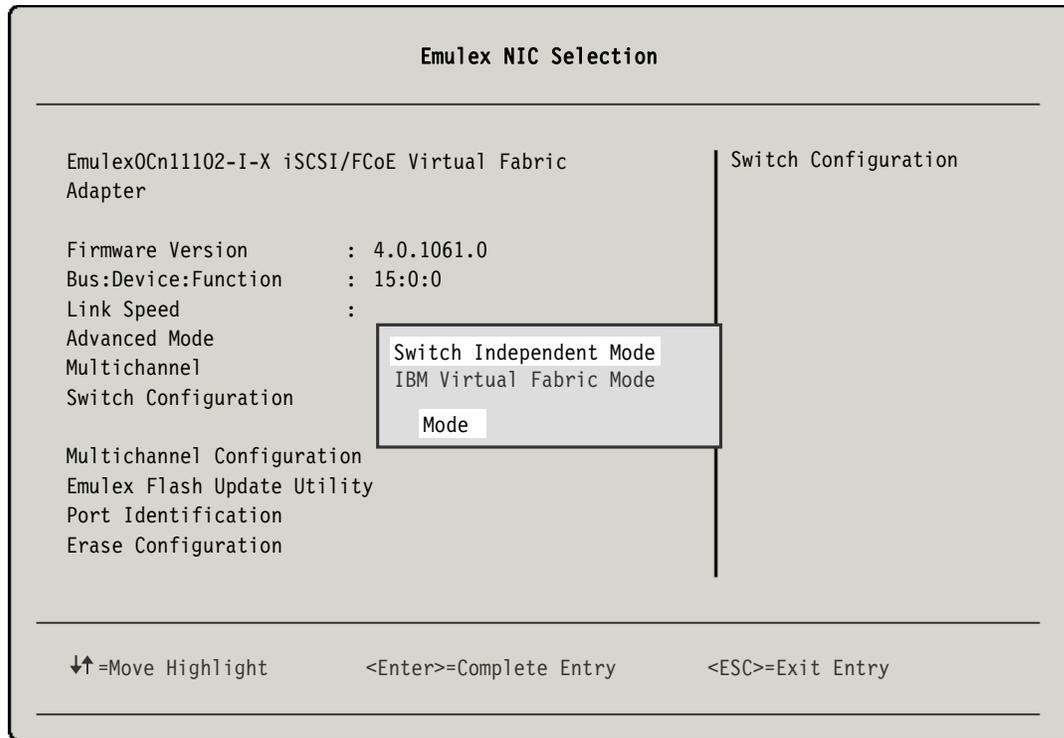

Figure 10-95 Emulex NIC Selection panel
7. In the Emulex NIC Selection panel (Figure 10-95), for Mode, select **Switch Independent Mode**.